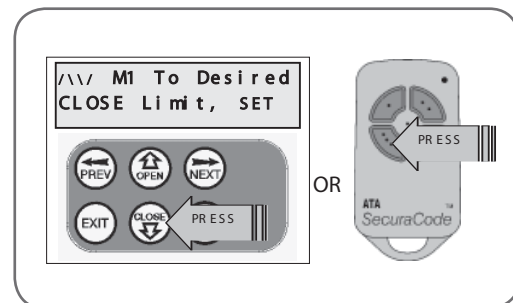

fig 14
1. Press and hold the CLOSE button (or press button 4 on the transmitter) until the gate reaches its close position, i.e. when the rail-mounted actuator pushes the microswitch to its close position (**Fig. 14**).